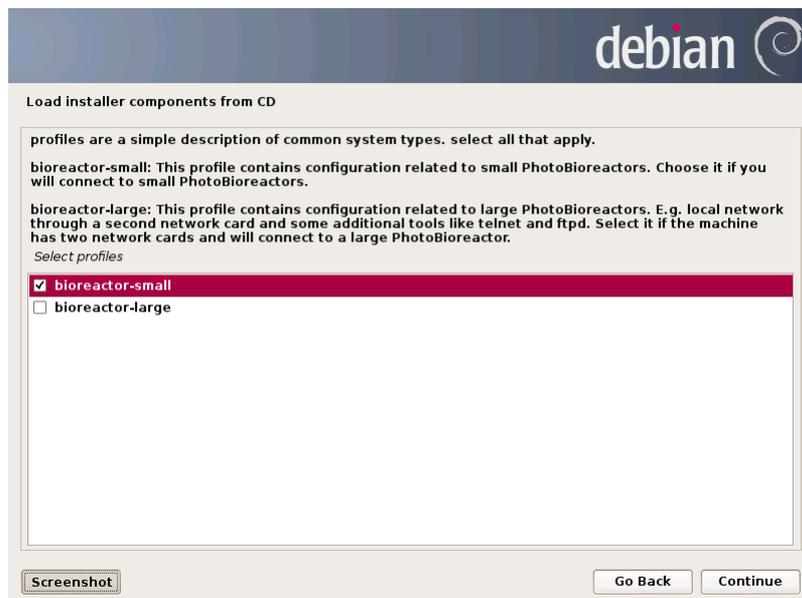

Fig. 56: Choose the bioreactor profile
- Verify that *bioreactor-small* profile is selected and *bioreactor-large* profile is unselected and continue (Fig. 56)